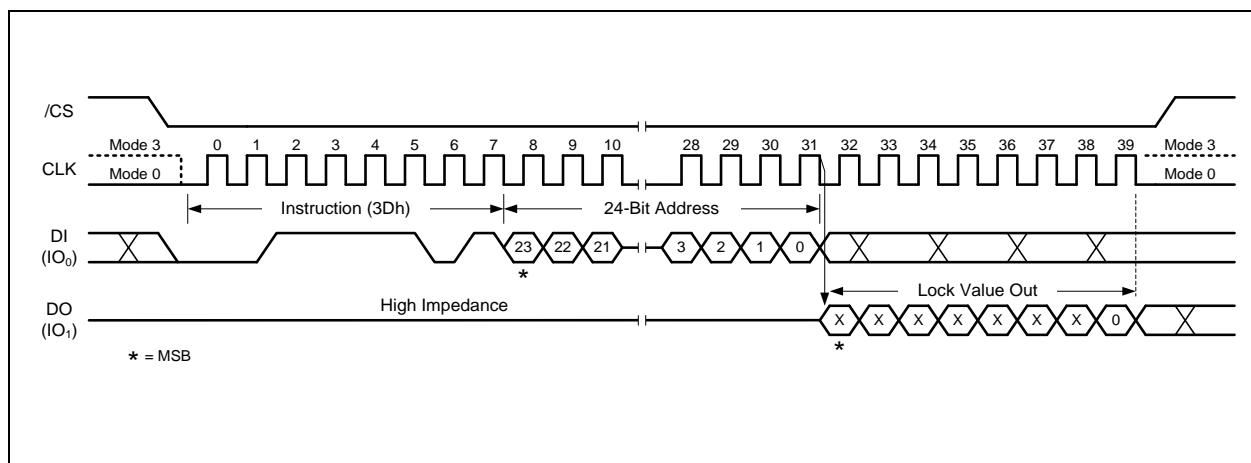

Figure 55. Read Block Lock Instruction
To read out the lock bit value of a specific block or sector as illustrated in Figure 4d, a Read Block/Sector Lock command must be issued by driving /CS low, shifting the instruction code “3Dh” into the Data Input (DI) pin on the rising edge of CLK, followed by a 24-bit address. The Block/Sector Lock bit value will be shifted out on the DO pin at the falling edge of CLK with most significant bit (MSB) first as shown in Figure 55. If the least significant bit (LSB) is 1, the corresponding block/sector is locked; if LSB=0, the corresponding block/sector is unlocked. Erase/Program operation can be performed.